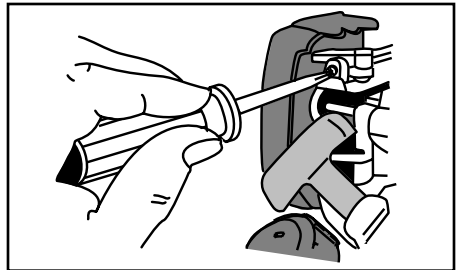

Fig. 29
3. If the engine stops frequently when idling, turn the idle speed screw **clockwise** 1/2 turn until the engine stabilizes (Fig. 29).
4. If the cutting head keeps rotating after the trigger is released, turn the idle speed screw **counterclockwise** 1/2 turn until the head stops rotating (Fig. 29).